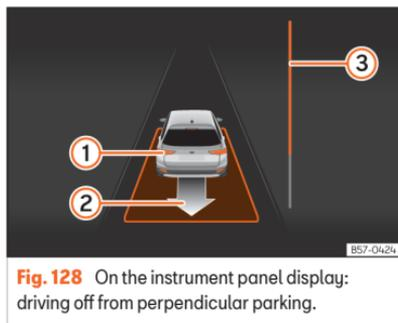

Fig. 128 On the instrument panel display: driving off from perpendicular parking.
- Reverse until the continuous ParkPilot signal sounds; **OR:** reverse until the instrument panel display shows the forward indication. The progress bar »» Fig. 128 (3) indicates the distance to cover.
- Press the brake pedal until the parking assist system completes the steering wheel turns; **OR:** press the brake pedal until the symbol (S) goes out on the instrument panel screen.